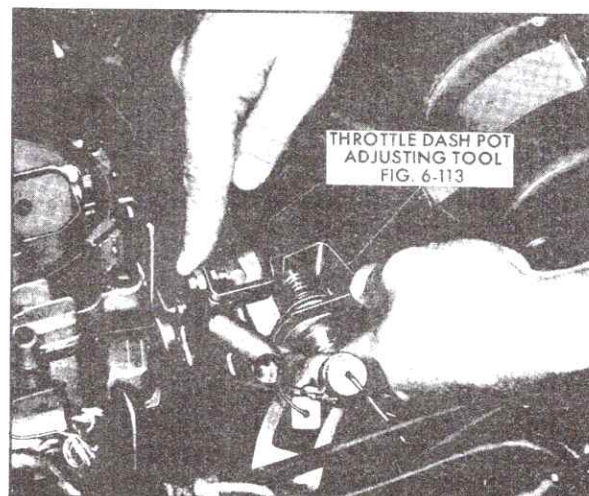

Fig. 6-111 Throttle Dash Pot Adjustment
with 3/8" wide prongs fitting over end nearest bracket, Fig. 6-111.
2. Loosen locknut securing dash pot shaft to bracket, Fig. 6-111, and unscrew dash pot from weld nut on bracket.
1. Install dash pot shaft with locknut into weld nut on mounting bracket, and secure with locknut, Fig. 6-111.